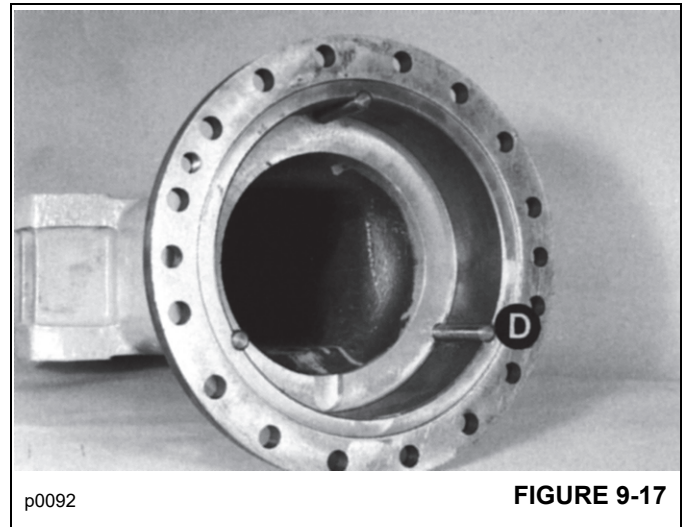

FIGURE 9-17
6. Remove the three reaction pins D Figure 9-17. Inspect for damage.